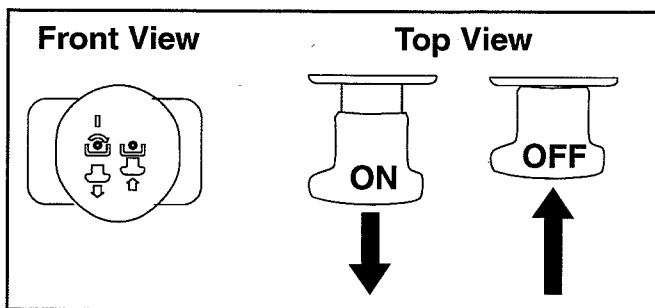

Figure 10
- Pull the PTO/Blade Engage knob outward into the engaged (ON) position. See Figure 10.